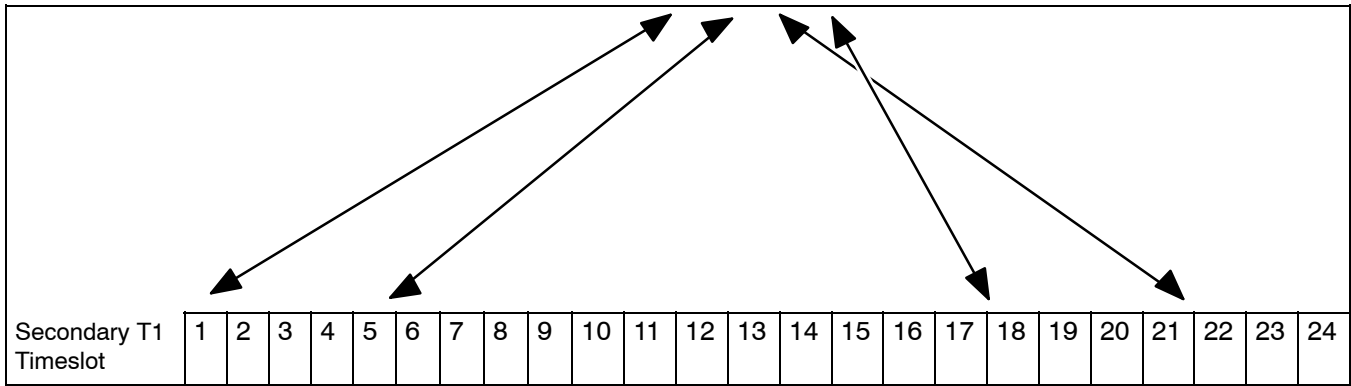

Figure 9. Timeslot Allocation with T1-S and ST1U
- Timeslots can only be allocated to a single channel (see Figure 9).
- When a channel uses multiple timeslots such as 64xN, ISDN and Router unit, there must be enough consecutive timeslots to allow the channel to be allocated (an example is shown in Figure 9 where channel 24 uses timeslots 22–24 on the primary T1).
- When the unit comes from the factory or a factory default reset is performed, all timeslots will be allocated to the Primary T1 (similar to channels 1–5 in Figure 9).
Any channel can be assigned to any timeslot. Using Figure 9 as an example, if channel 16 were allocated to timeslot 13 on the Primary T1, the following steps would be performed to change the allocation of channel 20 to timeslot 13: